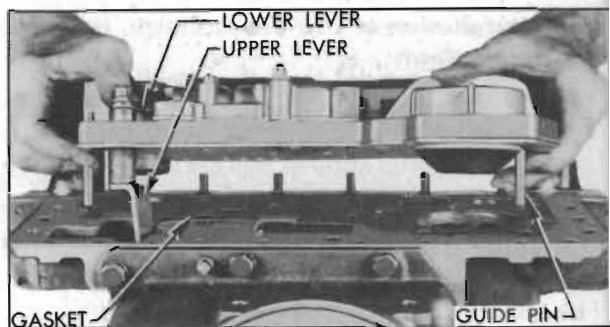

Figure 4-142—Installing Valve and Servo Body Assembly
3. Push shift control valve and lower operating lever inward to align the upper lever with opening in case and install the valve and servo body on transmission case. See figure 4-142. Engage pin in control valve with slot in operating lever.